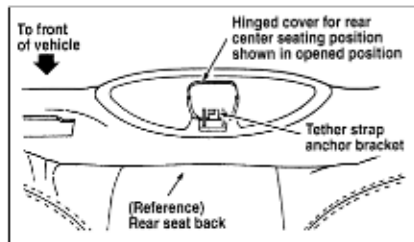

Figure 1
Refer to Figures 1 and 2.
1. Open the hinged cover located at the front of the high mount stop light. This cover conceals the tether strap anchor bracket, as shown in Figures 1 and 2.